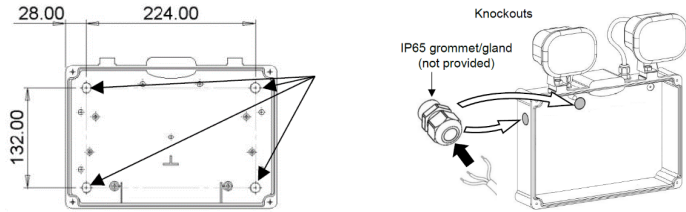

Figure 1: ECOFLOOD LED weatherproof mounting hole details and mains cable entry
1. Determine the mounting height and position, allow at least 100mm of clearance space on either side of the enclosure to ensure adequate operation space for the LED/push-button when the fitting is installed. Open the front cover 4 screws, using suitable size screwdriver. For mounting holes and mains cable entry (knockout) position, see figure 1 below for more details.